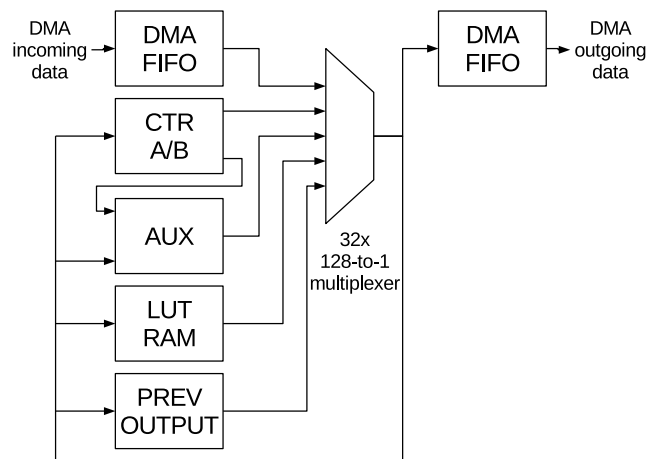

Figure 44.4-1. BitScrambler Data Path Diagram
- 64 bits, shifted in from the input FIFO (i.e., the left DMA FIFO block in Figure 44.4-1). As described before, data from the incoming DMA stream is deposited here. In order to facilitate iterating over input bits in a loop, an instruction can enable relative addressing. In this addressing mode, any mux sourcing a bit from the input FIFO register will actually get the bit offset by the counter A register (i.e., CTR A in Figure 44.4-1).
- 32 bits that were sent to the output in the last cycle (i.e., PREV OUTPUT block in Figure 44.4-1). Data sent to the output register will appear on this register one clock cycle later. This allows the BitScrambler to 'remember' data over multiple clock cycles: by outputting a bit to the output register, even if that bit subsequently is not sent to the output FIFO, the next clock cycle can still access it by selecting from this register. Bits can be remembered longer-term by selecting bits from this register for output again, which makes them appear here in the subsequent cycle.
- 32 bits from 2 x 16-bit counters (i.e., CTR A/B block in Figure 44.4-1). This register contains two 16-bit counters, named 'A' and 'B'. These can be loaded, incremented and decremented via control path instructions.
- 30 bits from comparators between counter B and the previous data on the output (PREV OUT in Figure 44.4-1; the 30 bits described here are part of the AUX block there). These allow the result of comparisons being used for output or for program flow. This can be useful in e.g. decoding run-length encoded streams, or generating PWM signals.
- 2 bits, one fixed-high, one fixed-low (i.e., part of AUX in Figure 44.4-1). These are useful if a protocol needs an always-high or always-low bit in the output that does not depend on the input data.